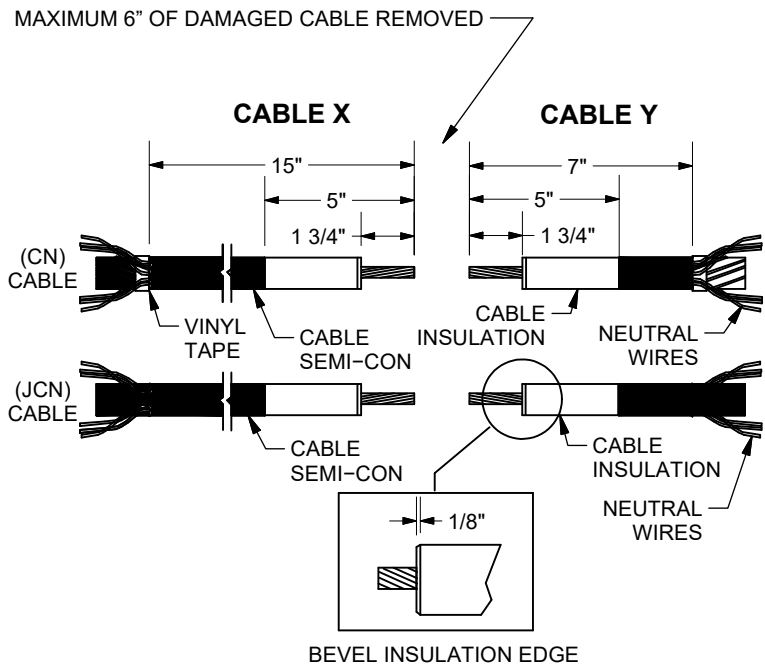

Figure 1
2. Prepare the cables as shown in Figure 1. If the cable is non-jacketed, bind the neutrals with wire or vinyl tape at the jacket cut back dimensions shown in Figure 1. Check the dimensions using templates provided.